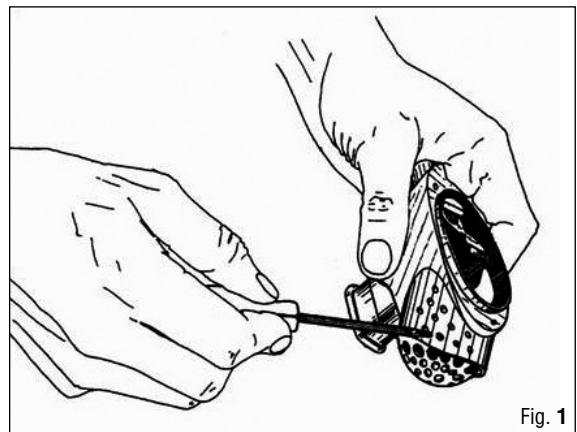

Fig. 1
11. Remove the oval diaphragm (142).
12. Press on the pins in the exhaust grill (145) to remove it from the housing in the second stage case (32) (Fig. 1).